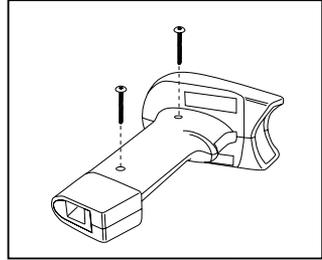

Figure 5. Remove Screws
3. Using a T-8 Torx® driver, remove and retain the two screws accessible through the Right Enclosure as shown in Figure 5.